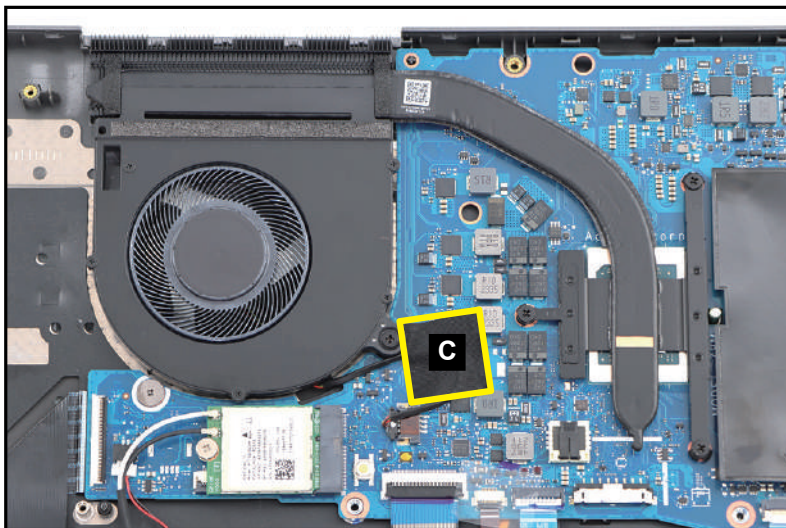

Figure 3-141. Replacing the Thermal Module
6. Attach the tape (C) to secure the fan cable connection (Figure 3-141).